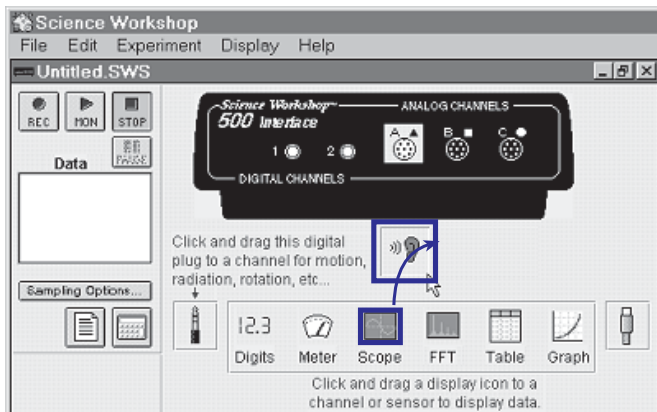

Figure 4. Opening a Display window in *ScienceWorkshop*.
④ Open a display window, such as the Oscilloscope display, by dragging and dropping the appropriate display icon to the Sound Sensor icon (Figure 4).
- ① To open the Sound Sensor's calibration window, double-click on the Sound Sensor icon in the Experiment Setup window (see Figure 4).